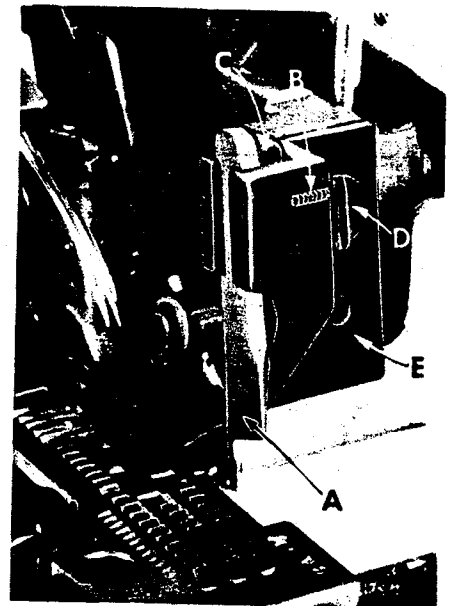

Fig. 12
Replace upper knife assembly. Clamp upper knife (A, Fig. 12) in position, setting allen screw (B) to hold clamp (C) against the upper knife. At bottom of its stroke, front cutting edge of upper knife should extend not less than $1/64$ inch below cutting edge of the lower knife.